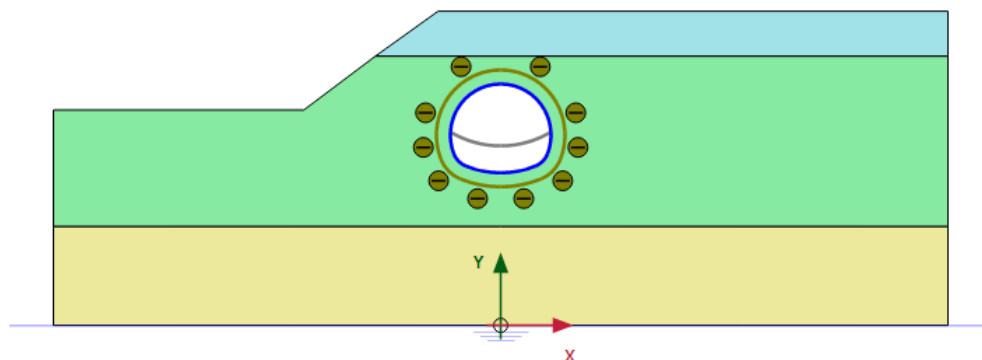

Figure 75: Configuration of Phase 4
4. The model for phase 4 can be seen in Figure 75 (on page 99).